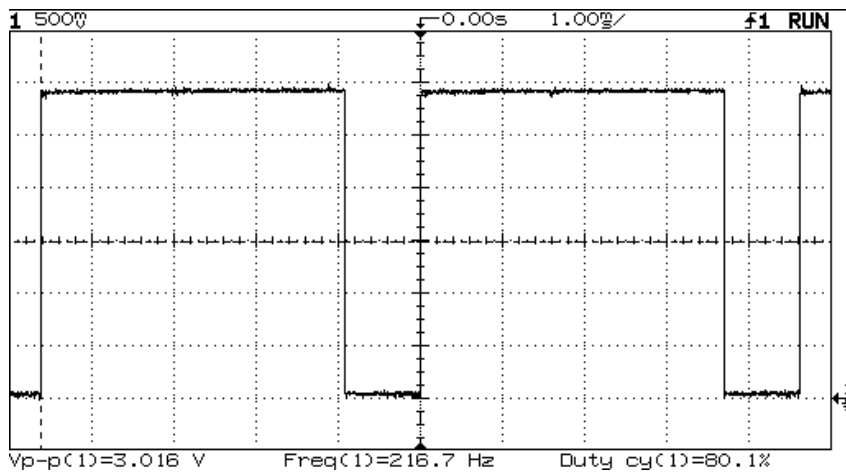

Fig. 4.3 PCN\_TX Pg. 1-1J TP417
1. **GSM\_TX** ( Control signal from Superchip which switches 2.85V through to 3V\_G\_TX.). See figure 4.3.